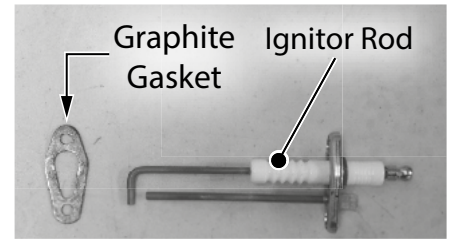

Figure 3 - Install ignitor rod and graphite gasket
- 9 Locate the new ignitor rod assembly and graphite gasket provided in the kit. Orient the graphite gasket as shown in Figure 3 and install to ignitor rod assembly.